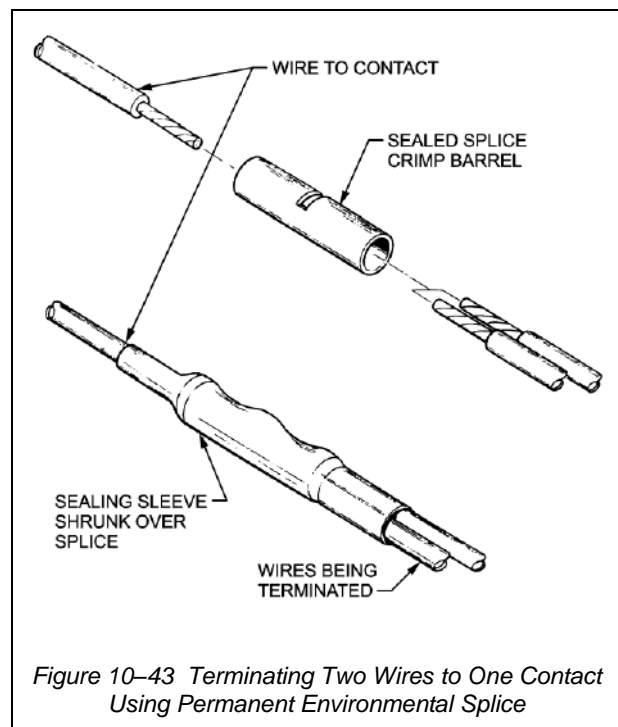

Figure 10-43 Terminating Two Wires to One Contact Using Permanent Environmental Splice
- If both wires cannot fit into solder cup, use permanent splice to join both wires to a third wire that can fit into solder cup or crimp barrel. See Section 2, Chapter 6 for splicing procedure and Figure 10-41 and Figure 10-43 for illustration of this connection.
- Select a 15cm length of wire that will fit the wire barrel of the contact. Strip one end sufficiently long to be able to double the stripped portion back on itself as shown in Figure 10-43.